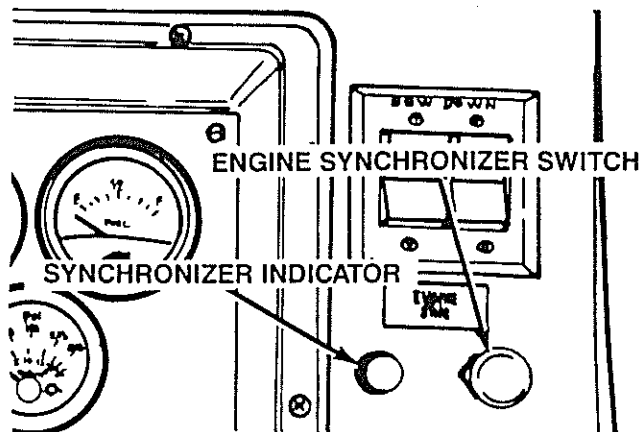

Figure 3-15 Engine Synchronizer Switch
20. See Figure 3-15. Check the operation of the engine synchronizer by setting both engines slightly above idle. Pull the SYNCHRONIZER switch to ON, indicator light should be ON. Move port engine lever to maximum speed position.
21. See Figure 3-15. With the boat moving, check the operation of the trim tabs. Make sure they operate properly.